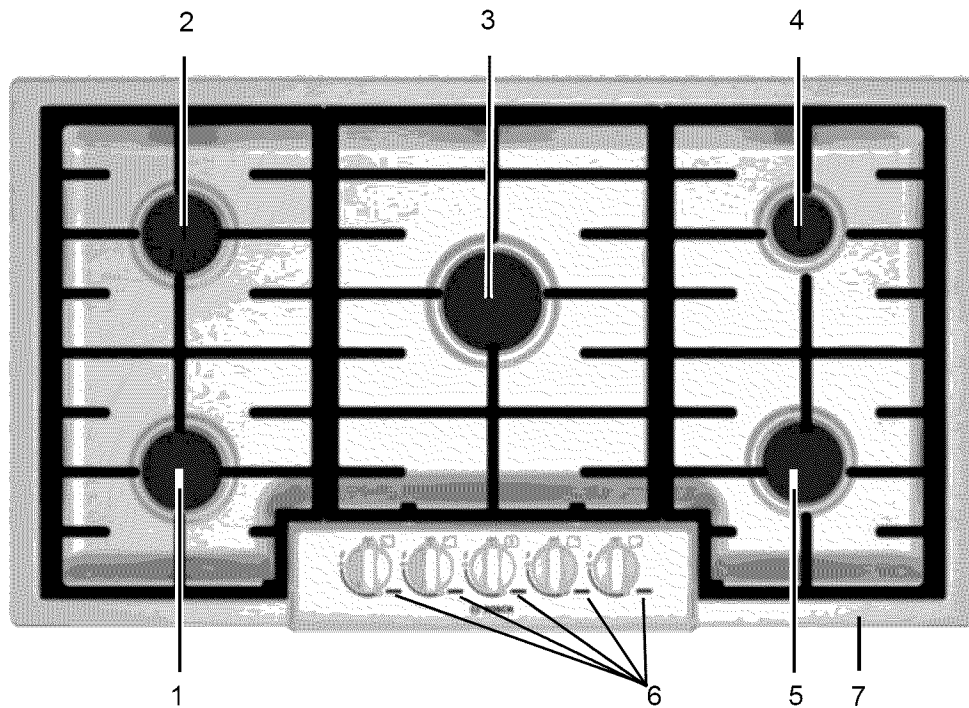

Figure 5: Model NGMP655UC
- Place each burner cap on its correct burner base per its corresponding letter designation. See *Figure 5 "Burners Caps" on page 11*.